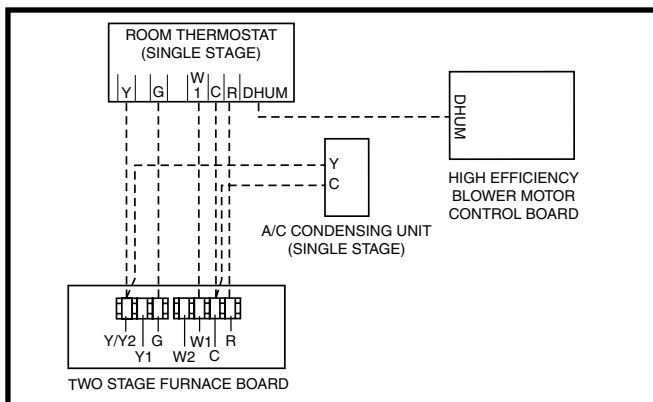
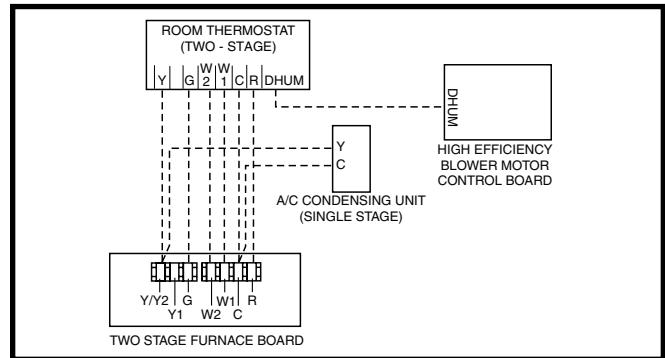
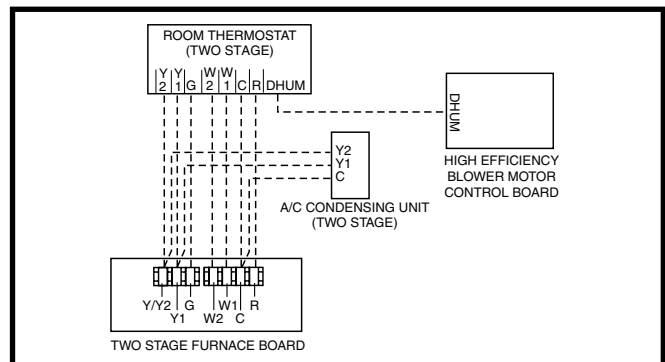

Figure 20. Wiring Configuration 1
Figure 21. Wiring Configuration 2
Figure 22. Wiring Configuration 3
- Connect the thermostat's **W** output to the furnace control boards **W1** terminal. This allows the furnace to always run in low output mode. See Figure 20.
This option uses the full two stage heating capability of the furnace with a single stage outdoor unit. See Figure 21.
This option uses the full two stage heating capability of the furnace with a two stage outdoor unit. See Figure 22.
The Autostaging feature makes it possible to use a single stage thermostat and still receive some of the benefits of 2-stage furnace operation. If Autostage is enabled, the furnace will drop to **LOW** fire after initially starting in **HIGH** fire. After a period of 10 minutes, the furnace will then stage up to **HIGH** fire, until the heating load is met. See Figure 20 and the Low Voltage Connection section on page 22.
- ✓ Verify that all needed thermostat wires are securely connected to the correct leads on the terminal strip of the circuit board. See Figure 20 \(page 22\), Figure 21 \(page 22\), & Figure 22 \(page 22\).
The operating sequences for the heating, cooling, and fan modes are described below. Refer to the field and furnace wiring diagrams: Figure 19 \(page 21\), Figure 20 \(page 22\), Figure 21 \(page 22\), Figure 22 \(page 22\), Figure 30 \(page 32\), & Figure 31 \(page 33\).